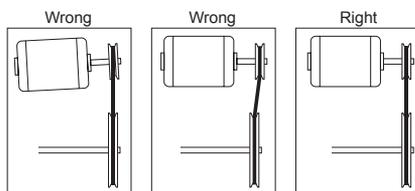

Figure 6
2. Mount sheaves on shafts and secure with set screw. Check sheaves for proper alignment, see Figure 6. Misaligned sheaves lead to excessive belt wear, vibration and noise.